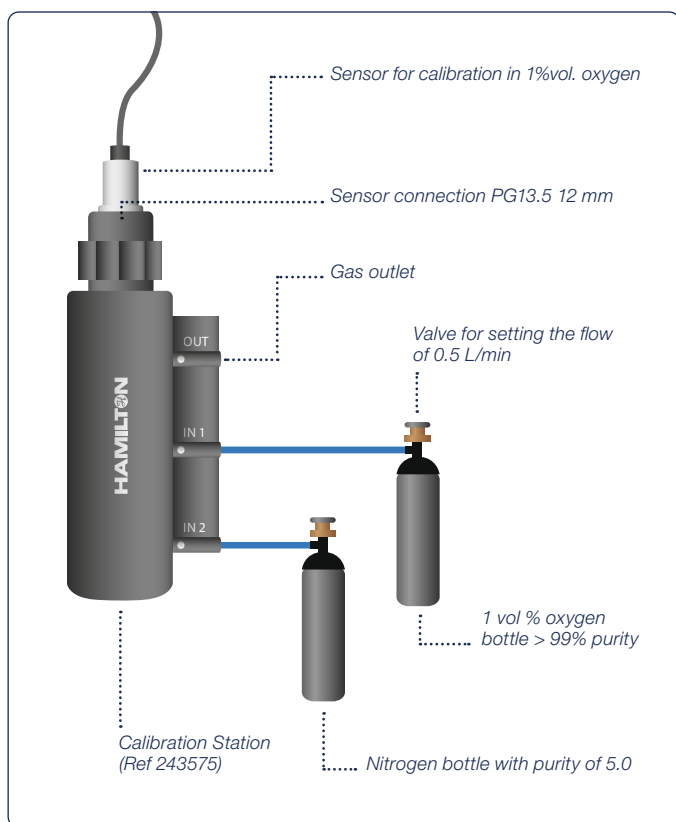

Figure 16: Calibration setup in oxygen point
- 1) Install the sensor into the calibration station and connected the 1%-vol calibration gas (Figure 16)